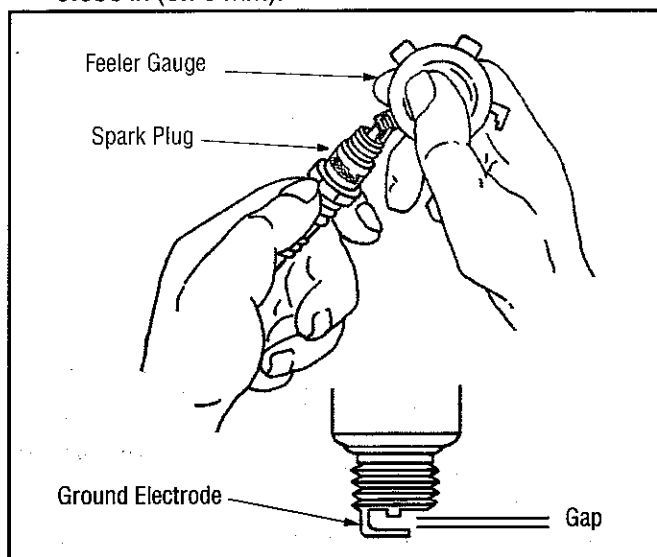

Figure 21
6. Check the gap using a feeler gauge and adjust, if necessary, by carefully bending the ground electrode. See Figure 21. Set the spark plug gap to 0.030 in (0.76 mm).